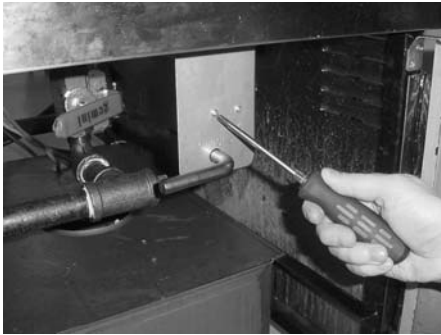

Figure 2-32
- a. Remove the two screws and nuts securing the microswitch to the drain rod valve bracket, and remove microswitch. Figure 2-32.